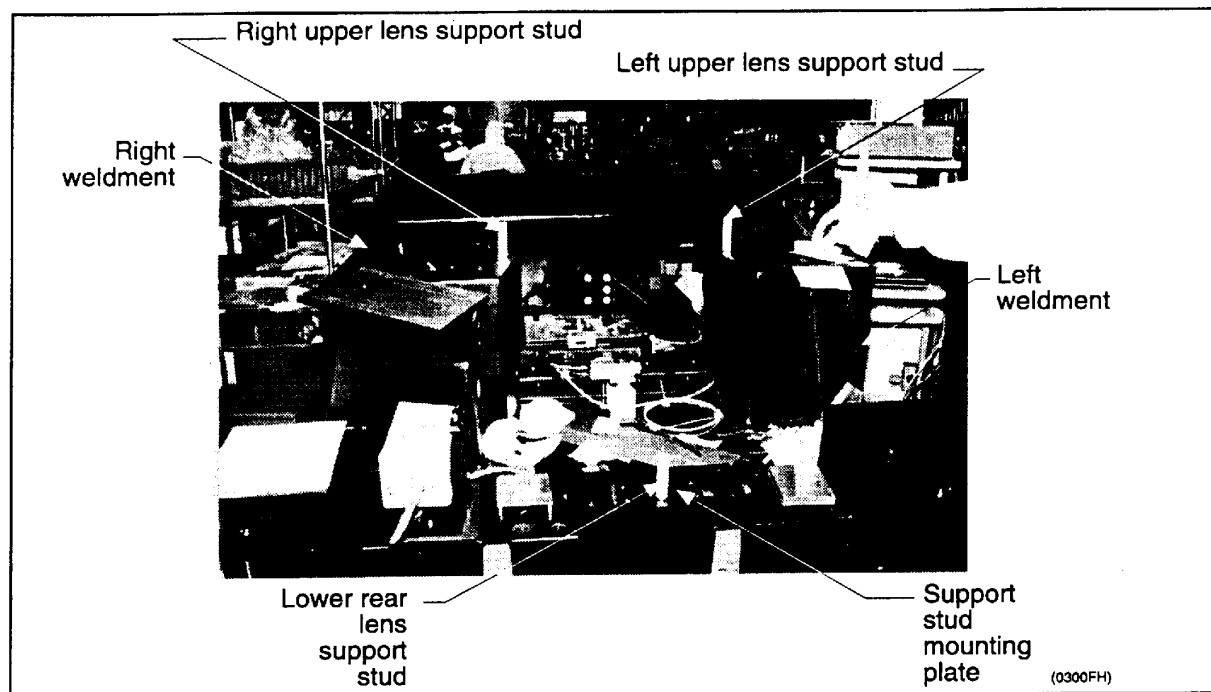

Figure 1. Lens assembly support mounting locations
2. To prevent damage to the mounting studs, loosen and remove the four bolts on the rear lens support stud mounting plate. (See *Figure 1.*)